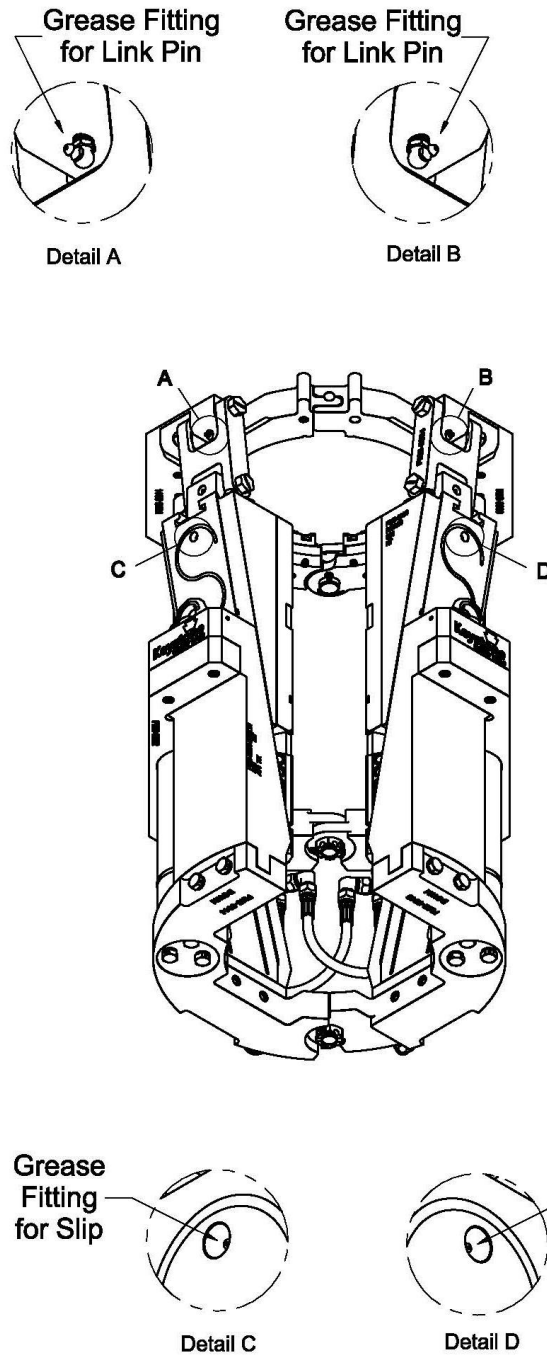

Fig. 36
Grease all grease locations identified in Figures 36, 37, 38	Pre & Post Use Inspection
Link Pins (see grease fitting locations under top plate see Detail A & B in Figure 36)	NLGI No. 2 Lithium or equivalent
- Grease all grease points locations (see fig. 36, 37, & 38).
- Grease all grease points and back of slips properly (see fig. 36, 37, & 38).